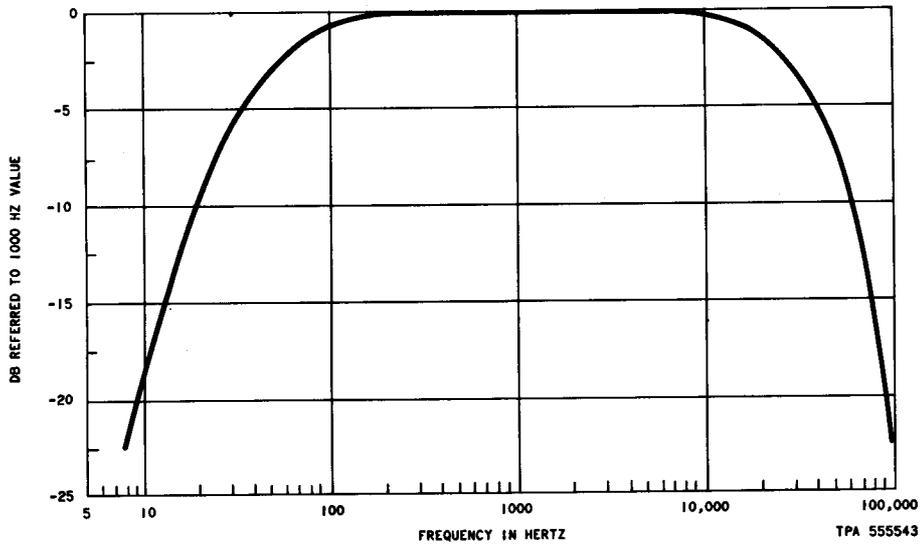

Fig. 6—Typical Frequency Characteristic of Impulse Noise Circuits With Flat Weighting
2.08 Figures 6 and 7 show typical frequency characteristics with flat weighting for the impulse and message circuit noise for the 6F and 6FR sets, respectively. These curves apply for terminating, bridging, or longitudinal measurements. Both curves are very similar and have 3-dB points at about 50 Hz and 25 kHz.